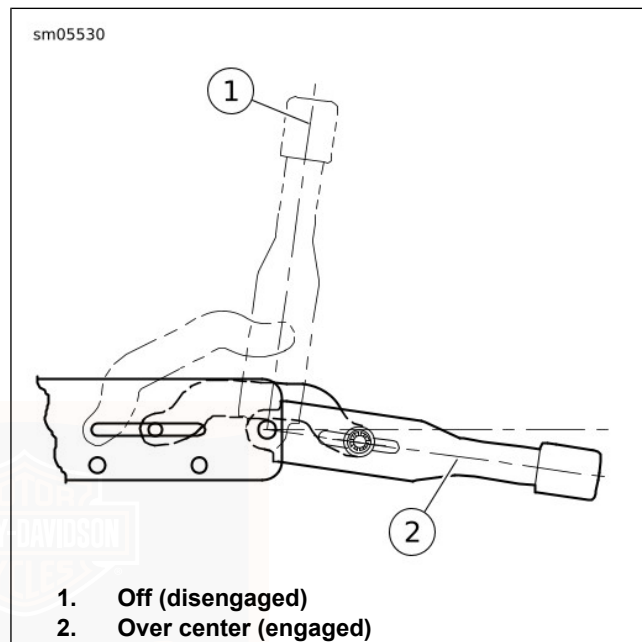

Figure 55. Park Brake Positions
5. See Figure 55. The rear brakes should hold securely and the vehicle should remain still. Check position of the parking brake lever (should be in over center position). See ADJUSTMENT to adjust parking brake as necessary.
1. See Figure 55. With vehicle on level ground, move parking brake lever to OFF position.